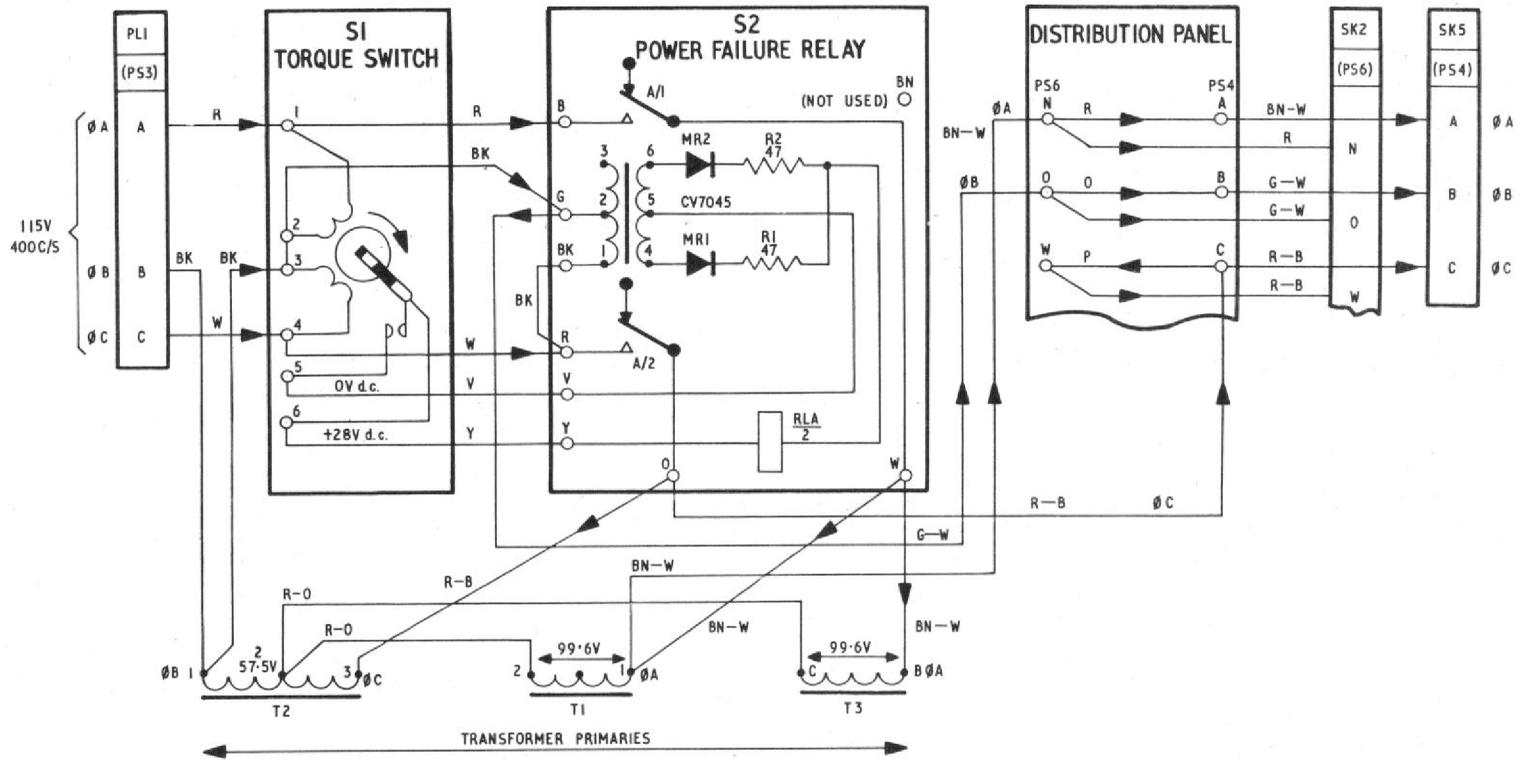
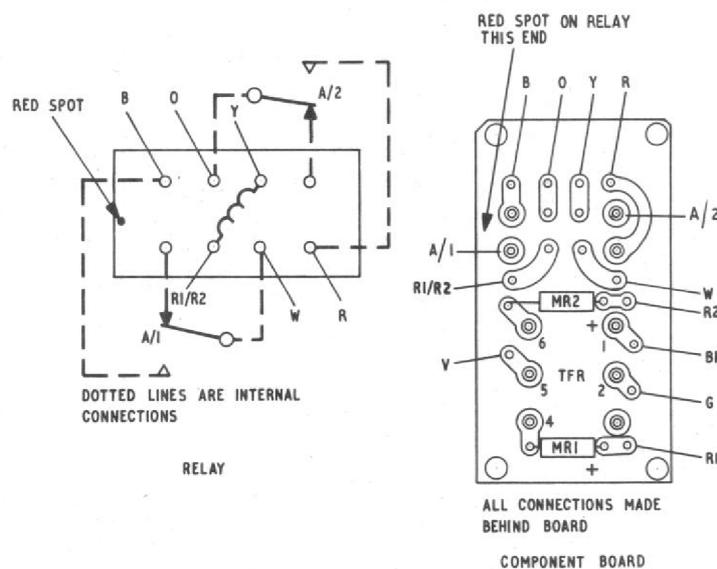

Fig. 1. 115V routing and input to transformers
Fig. 2. Relay S2 and component board
(2) Output from:—
A schematic diagram showing the 115V routing and the inputs to all components of sub-para. (1) is given in fig. 1. Fig. 2 shows the component board and relay base wiring of S2.